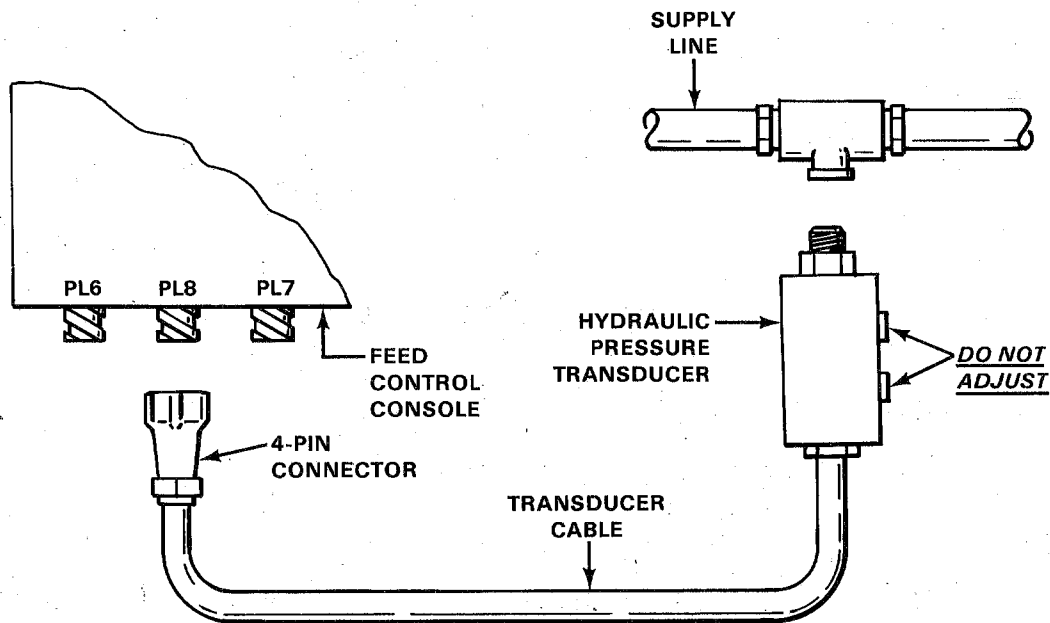

FIGURE 1, Hydraulic Pressure Transducer
3. Install the new Hydraulic Pressure Transducer in the hydraulic supply line to the spindle motor (see Figure 1).